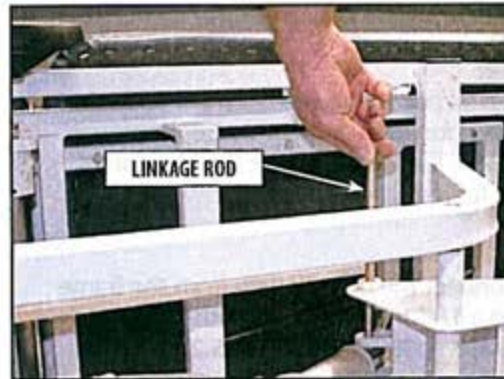

FIGURE 5.27
9. Tapping up from the bottom, remove the Linkage Rod, going through the brackets and the Actuator. **Refer to Figure 5.27.**